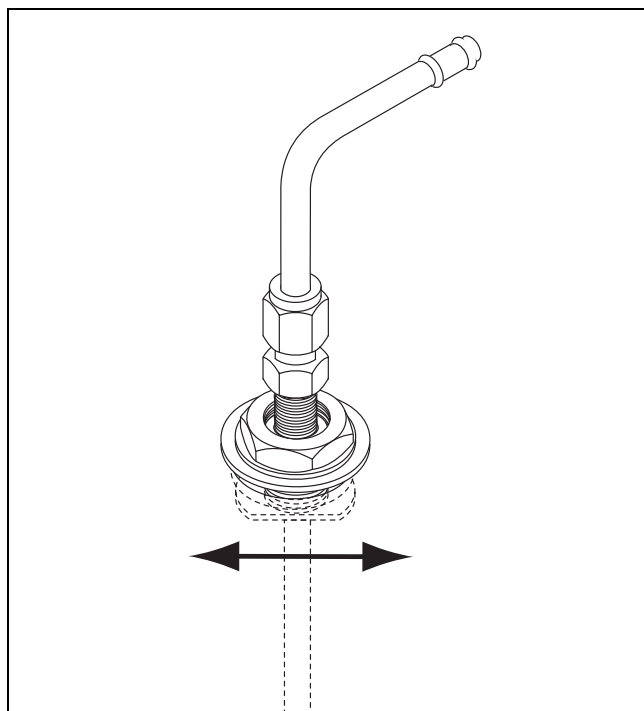

Figure 20: Standpipe installation - illustration 3
- center standpipe in tank hole. See Figure 20.